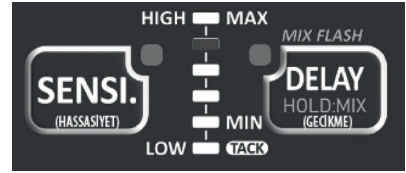

Figure 3
- Press the DELAY button briefly; the DELAY light will blink. Adjust the delay time by pressing the button until you reach the desired level, then stop (see Figure 3).
- The sensitivity of the sensors can be adjusted to low (MIN) or high (MAX) levels. The selected level will be shown on the LED display. Adjust the sensitivity by pressing the SENS. button until you reach the desired level, then stop (see Figure 3).